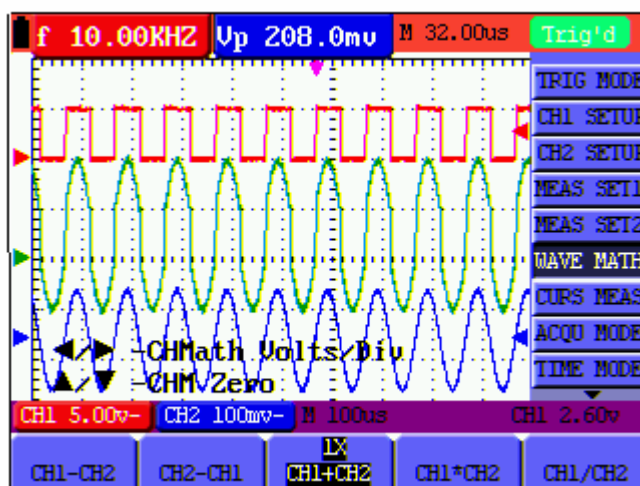

Figure 18: Waveform Mathematics
- Now, you can see a screen that looks like the following figure 18.